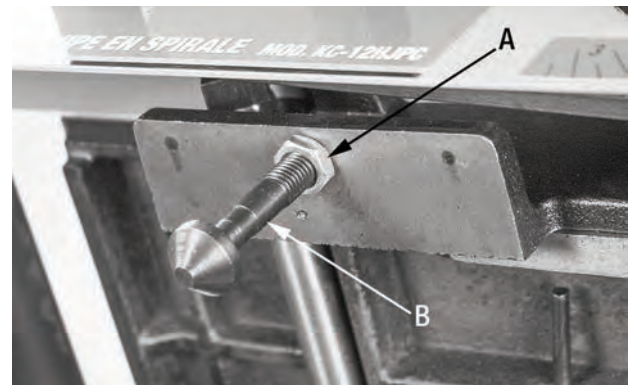

FIGURE 16
3. Loosen the hex. nut (A) Fig.16 and adjust the locking shaft (B) in small increments. Turning the locking shaft clockwise will tighten the lock lever motion, and counterclockwise will loosen it.
4. Retighten the hex. nut (A) and test for proper locking function.